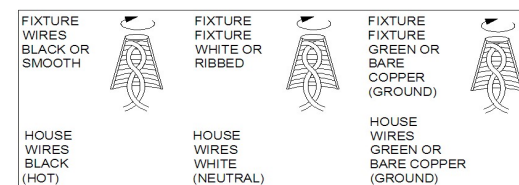

Fig 3
Replacing LED module (Fig. 3)
The LED module can be replaced by a qualified electrician without cutting of wire and without damage to any decorative element to which the fixture is attached. See installation steps for more details (Fig 3.)
1. There is 1 LED module in each square of the fixture. If one of them do not work, replace it as shown in Fig. 3. Make sure the power is off before you replace.
2. Unscrew screws (G) and the ground screw (D) with screwdriver and disconnect the ground wire and loosen the wire connectors (N) to remove the fixture from the wall.
3. Loosen wire connectors (E), disconnect the wires respectively, and then unscrew screws (H) and screws (L) to remove lamp shade (M) and cover (K), replace a new module (J).